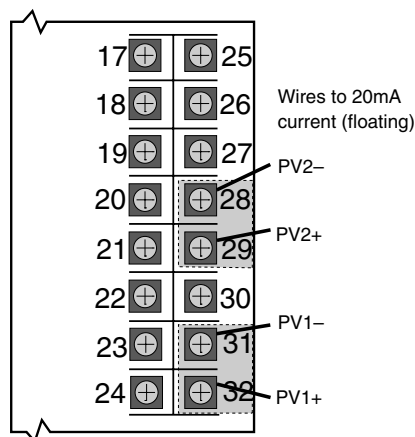

Figure A4.6
1. Remove the thermocouple wires (if present) from terminals 28, 29, 31 and 32. Replace them with pieces of wire that will be connected to a 20 milliamp input current (see *Figure A4.6*). Make sure terminal screws are securely tightened, but do not connect the wires yet (leave inputs floating).
12. Remove the 20mA input from the PV1 terminals, and attach it to the PV2 terminals (see *Figure A4.6*).